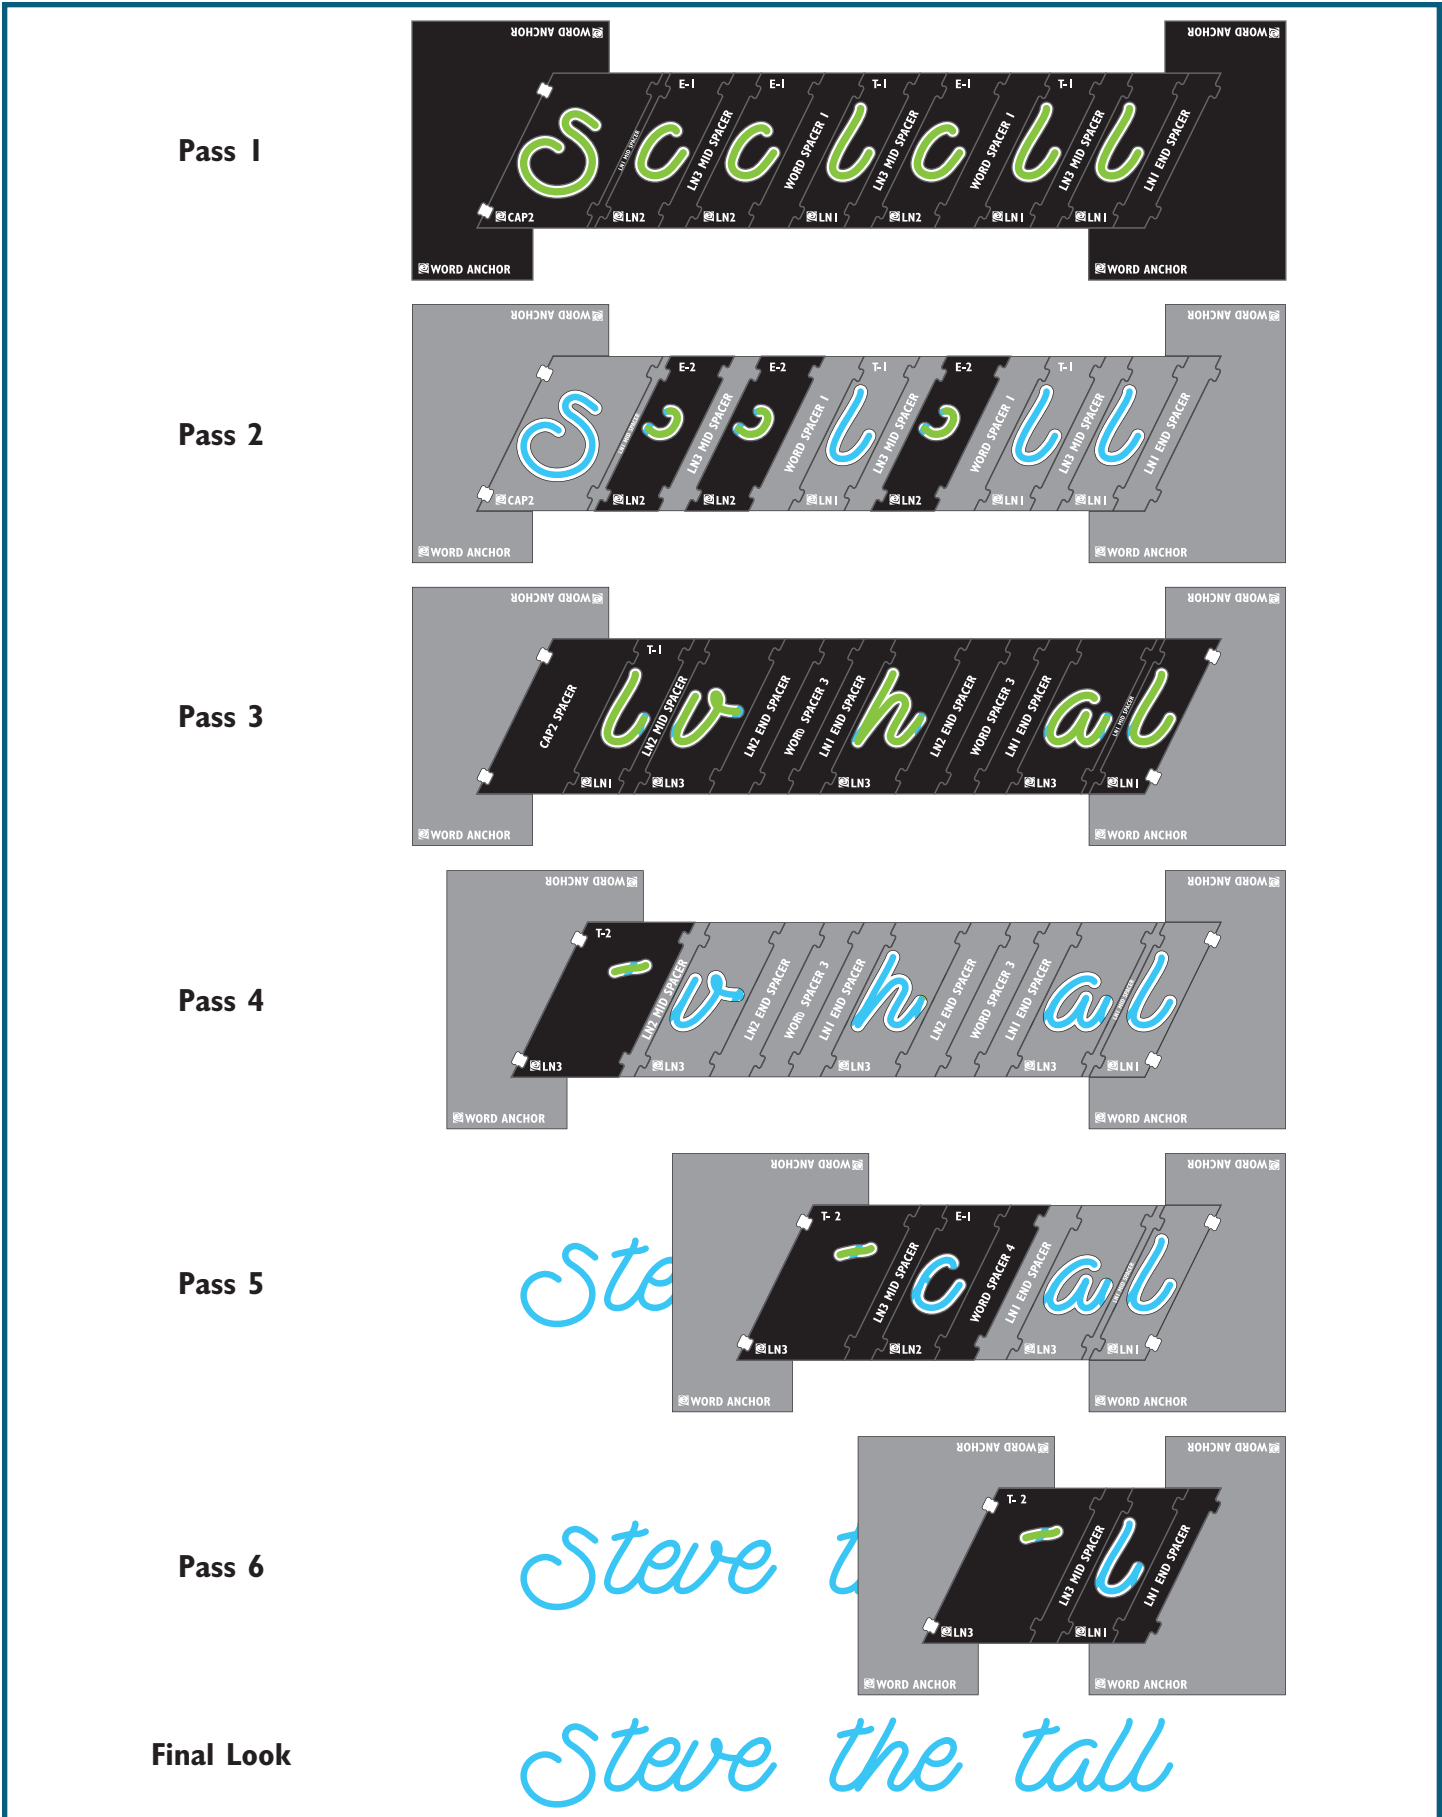

Fig. 8
**Example phrase: “Steve the tall” Fig. 8.**